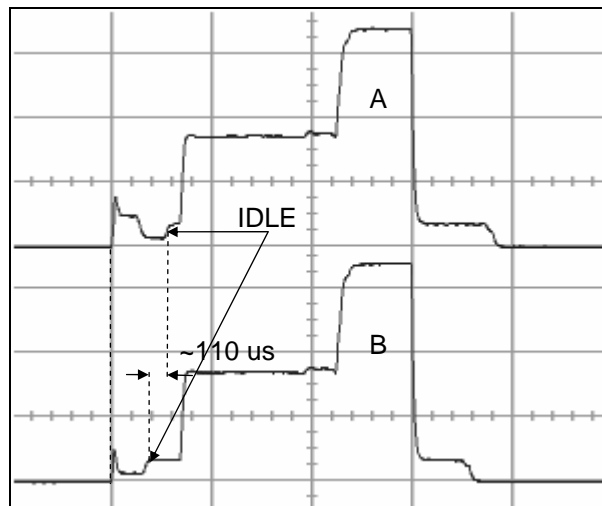

Figure 9. MCSM0.XOSC_FORCE_ON = 1
It is possible to keep the crystal on during SLEEP mode (`MCSM0.XOSC_FORCE_ON = 1`) to be able to reduce t_{Event1} , but this will cause the current consumption in SLEEP mode to increase significantly (see [1], [2], [3], and [4]). Figure 9 shows the current consumption when the crystal is turned off in SLEEP mode (A) and when the crystal is kept on (B). It is not possible to observe the difference in SLEEP current due to the resolution of the y-axis, but in the case where the crystal is running, one can see that the chip is ready and in IDLE mode about 110 μs earlier than what is the case if the crystal oscillator has been turned off. In the case where the crystal oscillator is running in SLEEP mode, it can be seen that the radio returns to SLEEP earlier than what is the case when XOSC is turned off. This is due to the fact that the calibration of the RC oscillator (see 3.2.3) starts earlier and thus finishes of sooner.